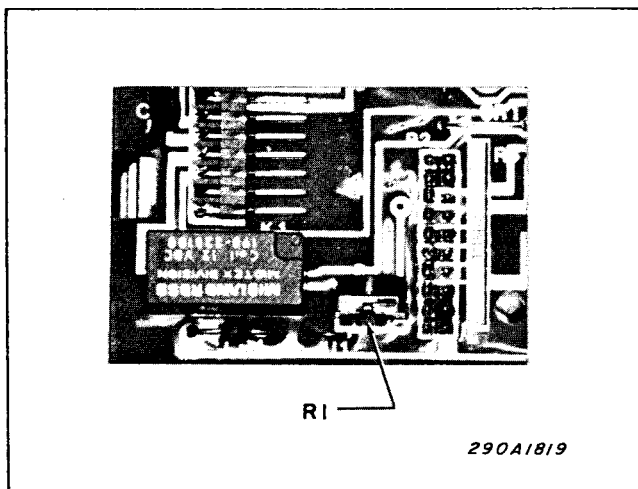

Figure 4. R1 Location.
8. See figure 4. Using a very small screwdriver, adjust R1 on the circuit board for the desired listening level outside the vehicle.